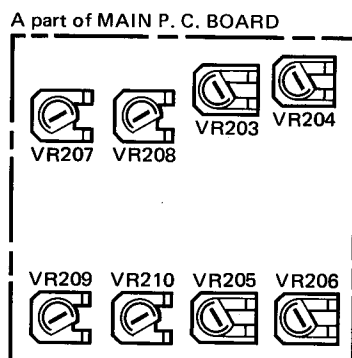

Fig. 21
- VR203 to VR210 are set temporarily as shown in Fig. 21.